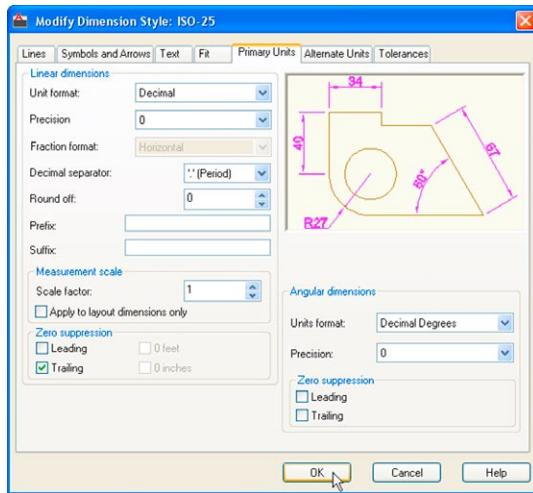

Fig. 4.12 Setting Primary Units in the Dimension Style Manager
5. The **Modify Dimension Style** dialog reappears (Fig. 4.12), click the **Symbols and Arrows** tab. Set **Arrow** size to **6**.
7. Then click the **Primary Units** tab and set the units **Precision** to **0**, that is no units after decimal point and **Decimal separator** to **Period**. Click the sub-dialogs **OK** button (Fig. 4.12).